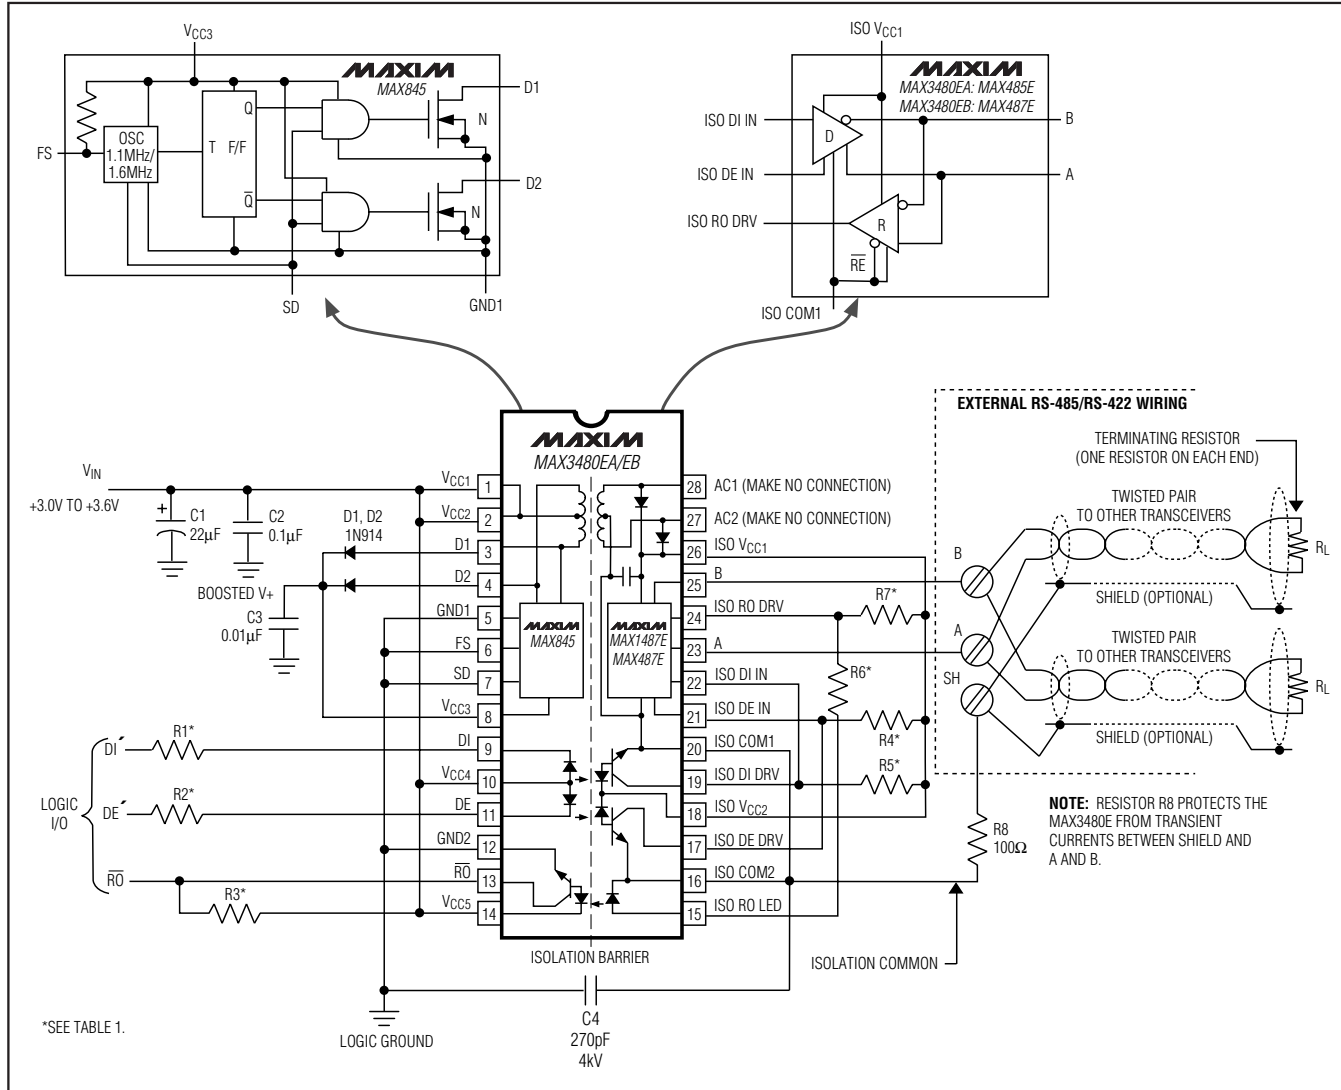

Figure 1. Block Diagram
**Note 2:** For DE' and DI' pin descriptions, see the *Block Diagram* and the *Typical Application Circuit* (Figure 1 for MAX3480EA/MAX3480EB).
( $V_{CC-} = +3.3V$ ,  $T_A = +25^\circ C$ , Figure 1, unless otherwise noted.)
(VCC- = +3.3V, TA = +25°C, Figure 1, unless otherwise noted.)
isolation barrier (Figure 1). Power is transferred from the logic side (nonisolated side) to the isolated side of the barrier through a center-tapped transformer. Signals cross the barrier through high-speed optocouplers. A single +3.3V supply on the logic side powers both sides of the interface.
Resistor R8 (Figures 1 and 2) provides additional protection by current limiting between the shield and the two signal wires. In the event that shielded cable is used and an external voltage or transient is inadvertently applied between the shield and the signal wires, the MAX3480EA/MAX3480EB can be damaged. Although unlikely, this condition can occur during installation.